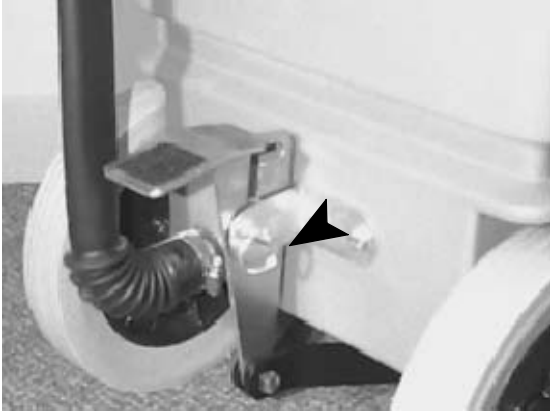

FIG. 5
- Slide pedal between two mounting arms on back of machine. Align and insert clevis pin through arms and slot in pedal, secure with cotter pin (Figure 5).